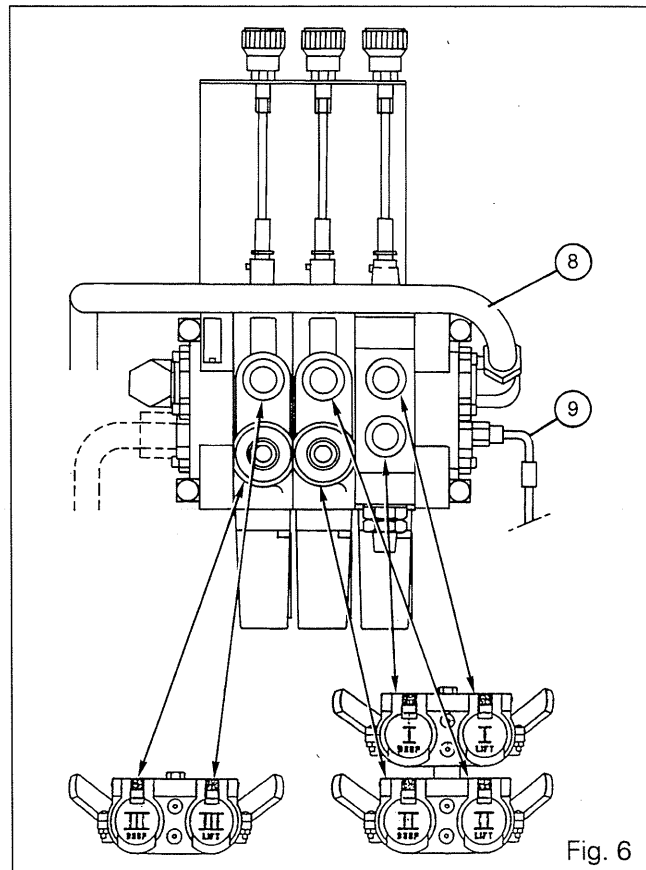

Fig. 6
### B. Removing and refitting the spool valve unit (Fig. 6 and 7)
- Connect the hoses between the spool valve unit and the quick couplings as shown in Fig. 6.
- Fit the knob (7), leaving a space "E" between the nut and the support (Fig. 6).